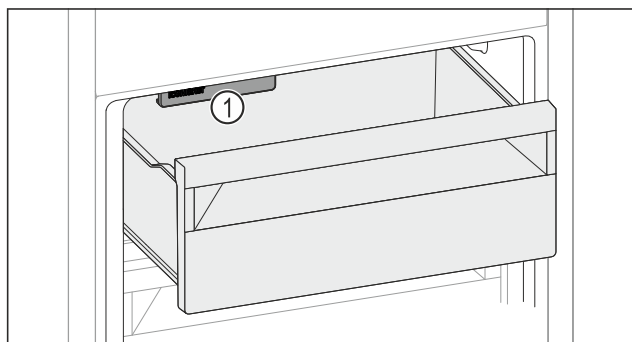

Fig. 156
- Watch out for the IceMaker Fig. 156 (1).